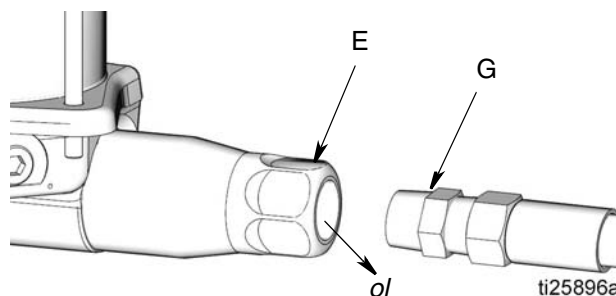

FIG. 8
2. Disconnect the **lubricant supply line (G)** from the **pump outlet (E)** (FIG. 8).
4. Open the **shut-off valve (V)**.
5. Run the pump a few strokes until oil (o), free of air, comes out of the **pump outlet (E)** (FIG. 8).